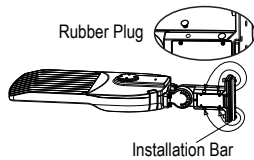

Figure 30
Step 1: Remove the four bolts from the A&D bracket, take out the four rubber plugs from the installation bar, and place the rubber plugs in the spots where the bolts were previously located on the bracket to ensure waterproofing (Figure 30).